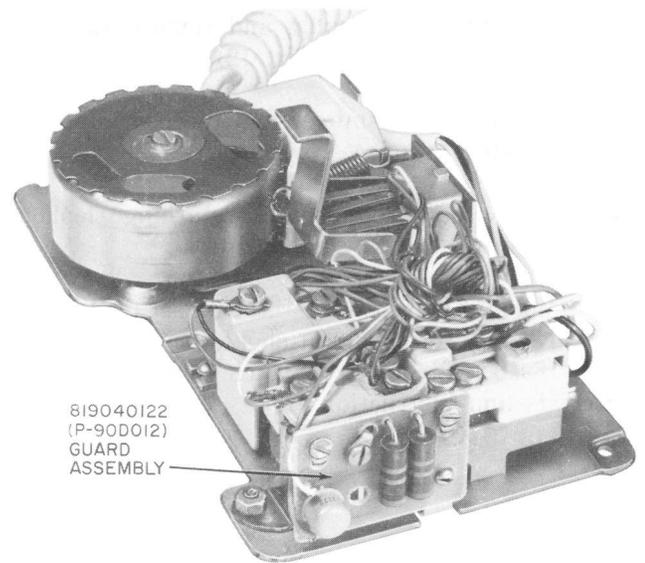

Fig. 3—819040122 (P-90D012) Guard Assembly (Polarity Guard) Installed on Telephone Set Base
3.06 If a polarity guard is to be installed in conjunction with the 35-type TOUCH-TONE dial, install Guard Assembly (Polarity Guard), ordered separately using an 814316121 (P-43A612) screw which is also ordered separately. A polarity guard should be used only when specified by local instructions for end-to-end signaling purposes when battery and ground reversals are encountered. Refer to Fig. 3 for installation information and Table E for connections.